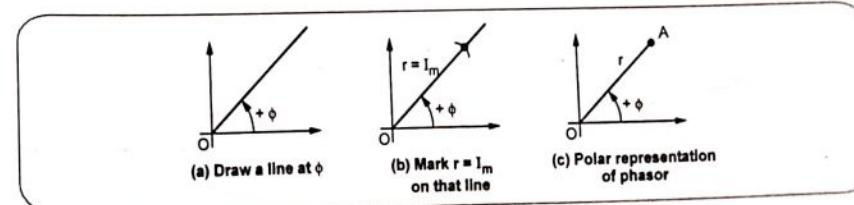

Fig. 2.12.1
- The line OA represents polar representation of phasor. This is shown in the Fig. 2.12.1.